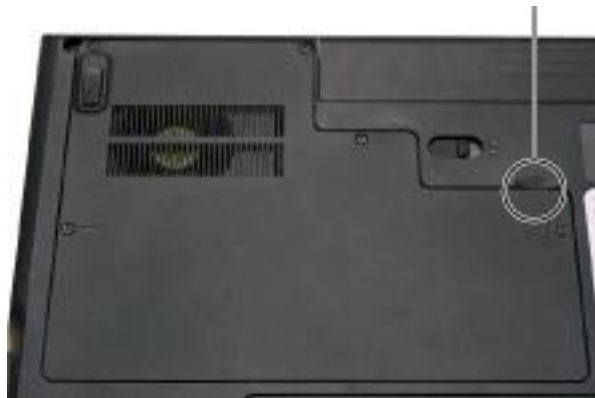

Fig. 4 Opening the CPU bay cover.
2. Use the thumb notch to lift the bay cover and remove it. Be careful not to break off the tabs located on the end of the cover opposite the thumb notch (see **Fig. 4**).
2. Use the thumb notch to lift the bay cover and remove it. Be careful not to break off the tabs located on the end of the cover opposite the thumb notch (see *Fig. 4*).